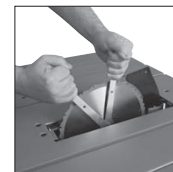

Fig. 44
- Use the two blade changing spanners provided. One spanner will fit the hexagonal nut machined onto the outer blade flange, and thus prevent the arbor from rotating. The other spanner will fit the arbor nut. (Fig 44)